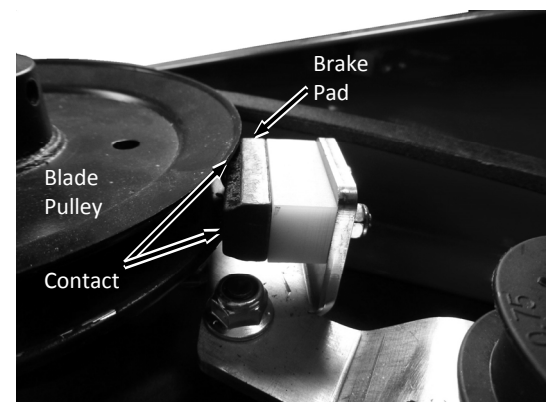

Figure 30
6. Rotate the Idler Arm so the Brake Pad contacts the Blade Pulley. Adjust the Pad up or down to fit into the groove of the Pulley so there is equal contact on top and bottom of the Pad (Figure 30).